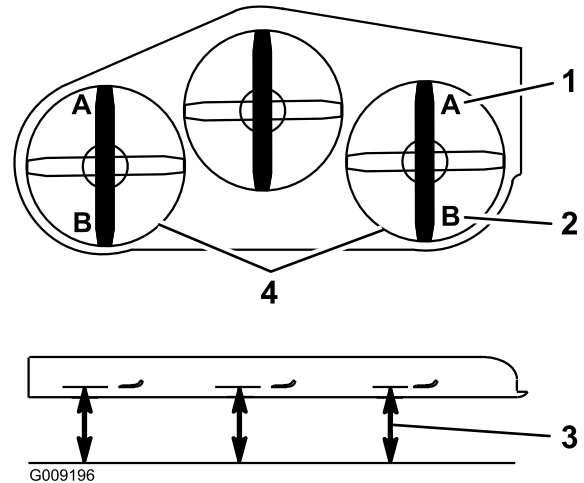

Figure 105
9. On both sides of the deck, measure from the level surface to the front tip of the blade (Position A) as shown in Figure 105.
15. On both sides of the deck, measure from the level surface to the back tip of the blade (position B) as shown in Figure 105.